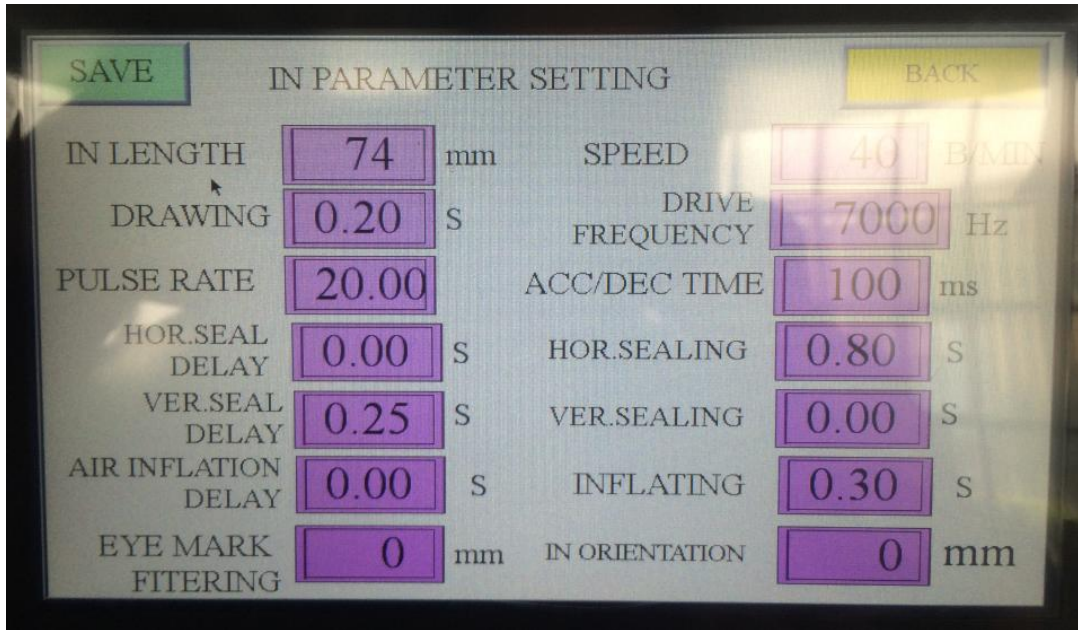

Fig. 4-4
**Inner Parameters:** click this button and enter the password “3258” for inner bag parameters setting to go into the interface 4-4 .(see Fig.4-4)
The default throughput of the machine is 20~40 bags/minute. However, the packaging speed can be regulated by changing the parameters on the touch screen according to the actual production conditions (See Fig. 4-4).
The bag length can be set directly, refer to the setting of bag length described in the Chapter IV, Section 4.2 Touch Screen (See Fig. 4-4).